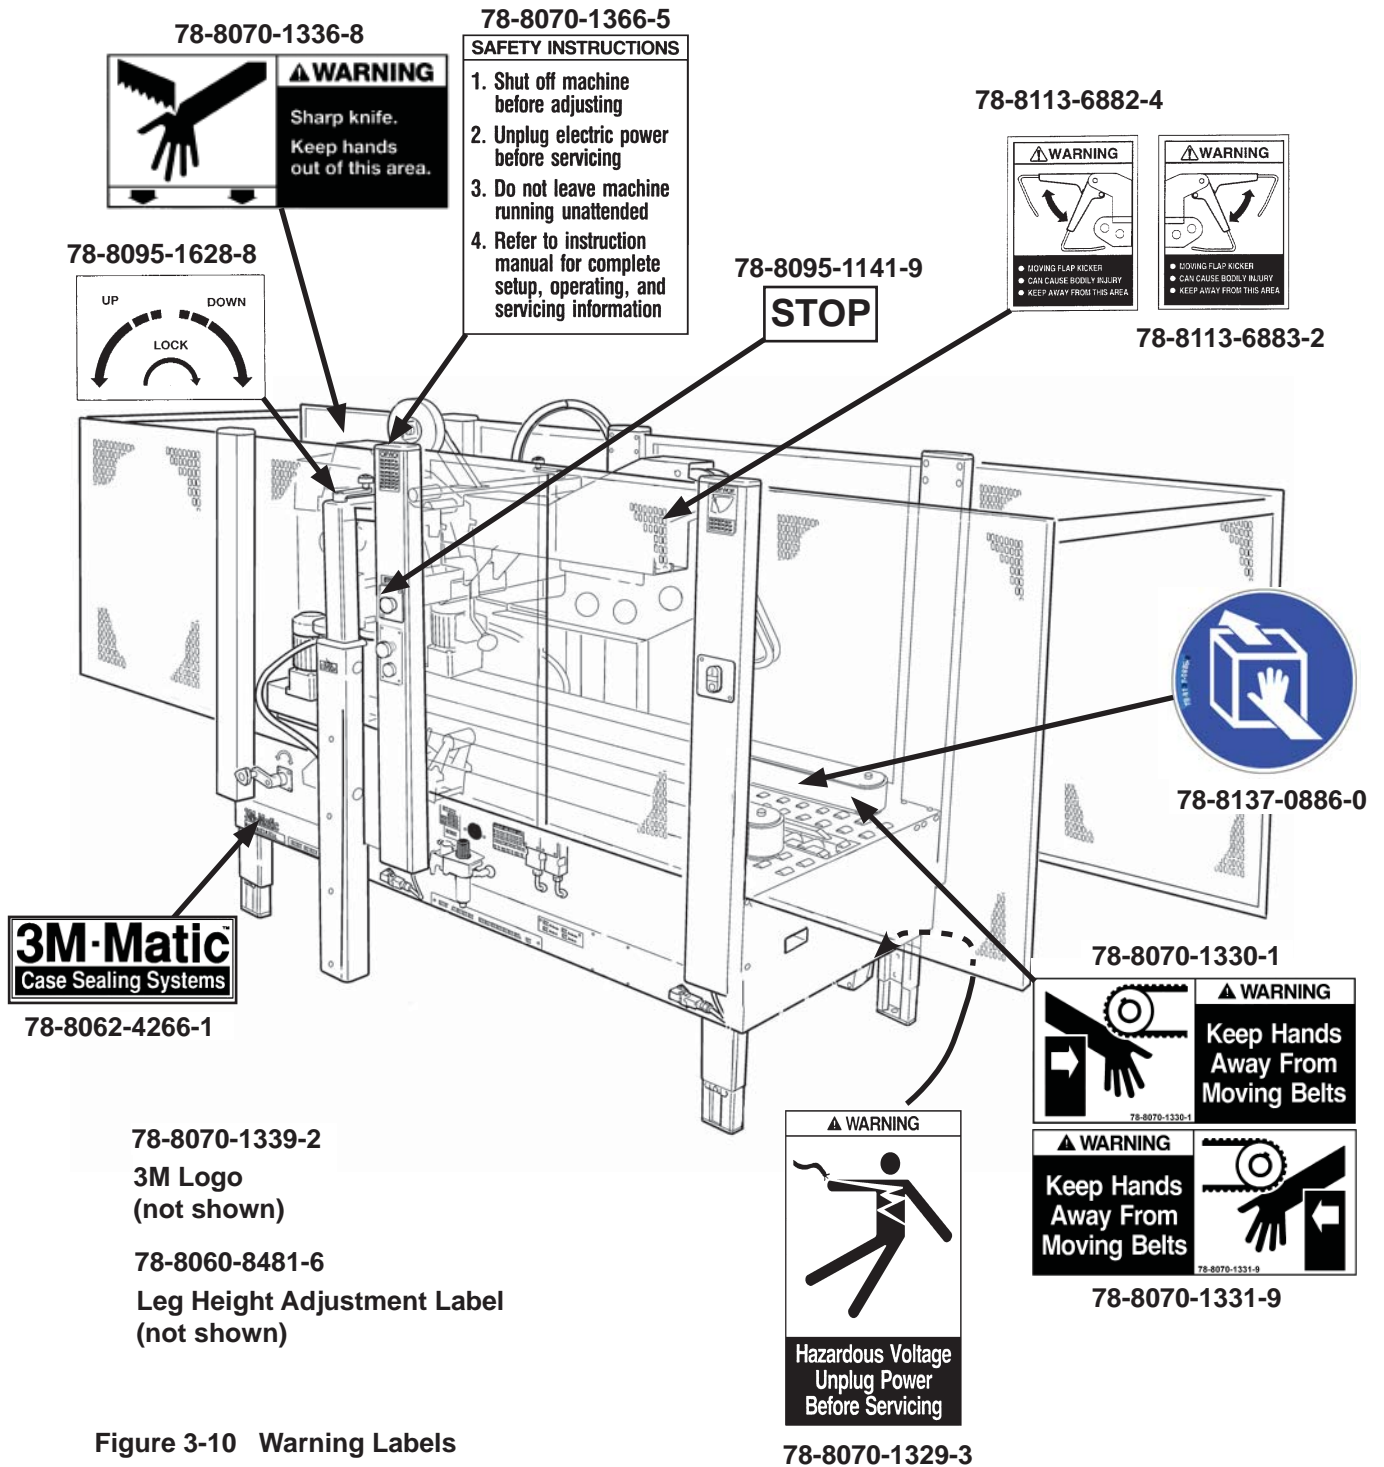

Figure 3-10 Warning Labels
**Important** – In the event the following safety labels are damaged or destroyed, **they must be replaced to ensure operator safety**. A label kit is available as a stock item or individual labels can be ordered (**Figure 3-10**).